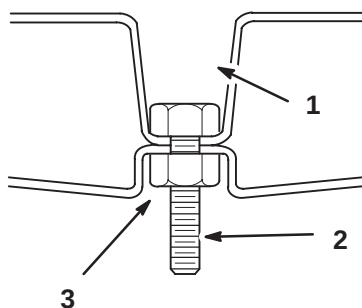

Figure 14
1. Place 4 bolts (5/16 x 1-1/4 inch) into the deep recessed holes in the left and right baffles. Secure the bolts with 4 locknuts (5/16 inch) in the shallow recesses. Refer to Figures 14 and 15 for correct assembly and hole usage.